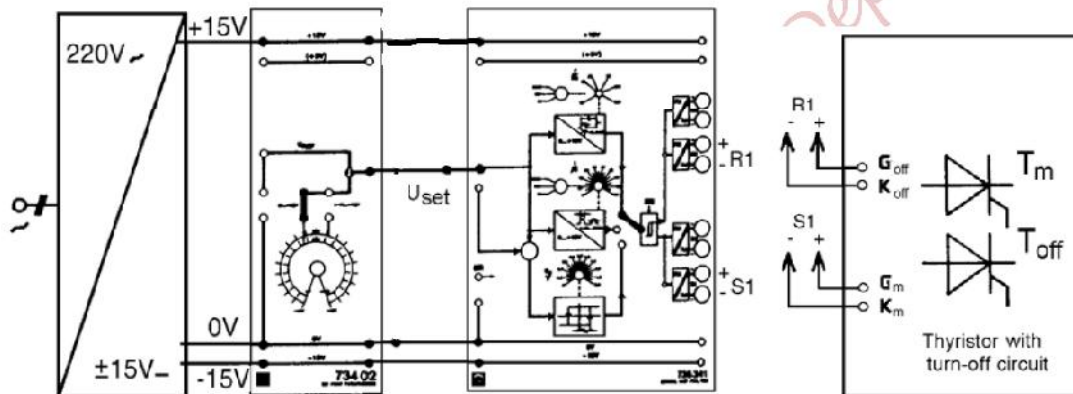

Figure 5.1 Configuration of the control equipment for a DC-DC Chopper
- 1) To setup the Controller for the converter, connect the following equipment as shown in Figure 5.1; DC power supply, Setpoint Potentiometer, Control Unit PWM/PFM/ZPR, Thyristor with turn-off circuit, and RMS meter. Refer to Appendix B for more details about the Control Unit.